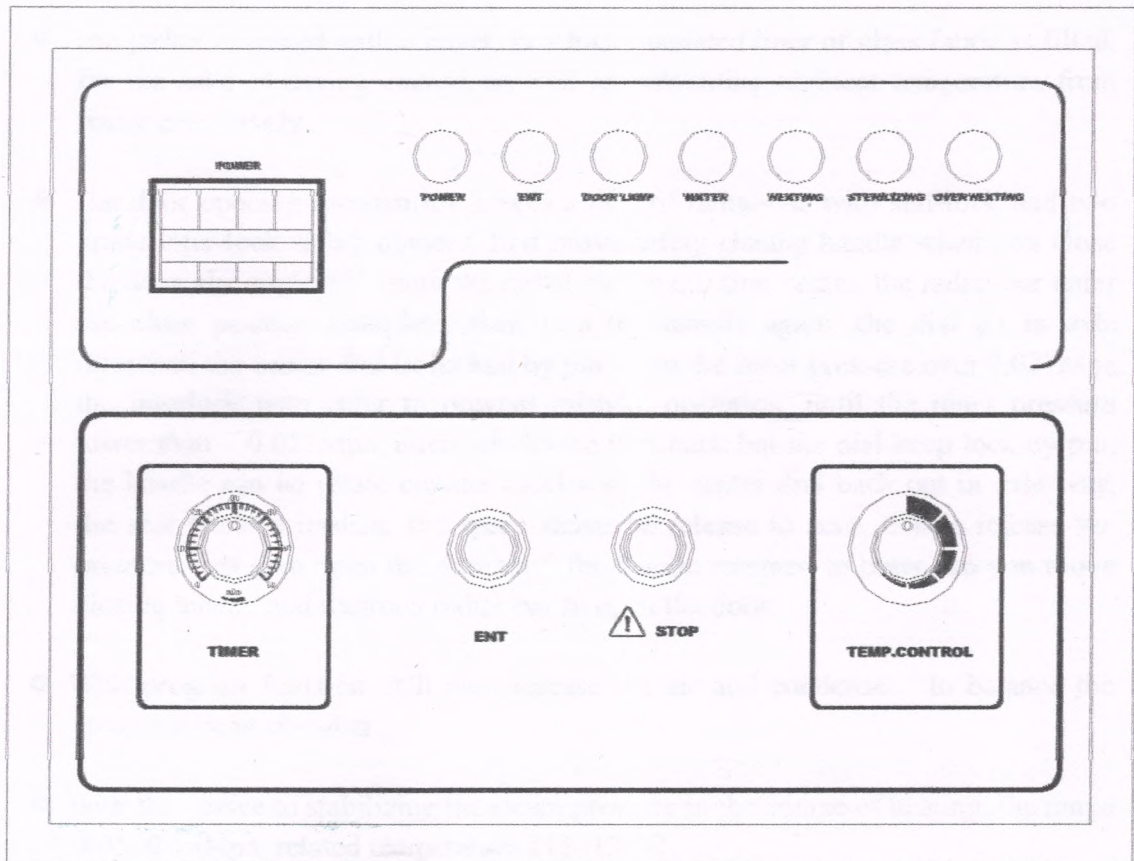

Fig1
- The vaporizer, gauge in front above easy watch, the thermometer on the side, all the pilots and display in front lower part control box for easy operating. (fig 1)